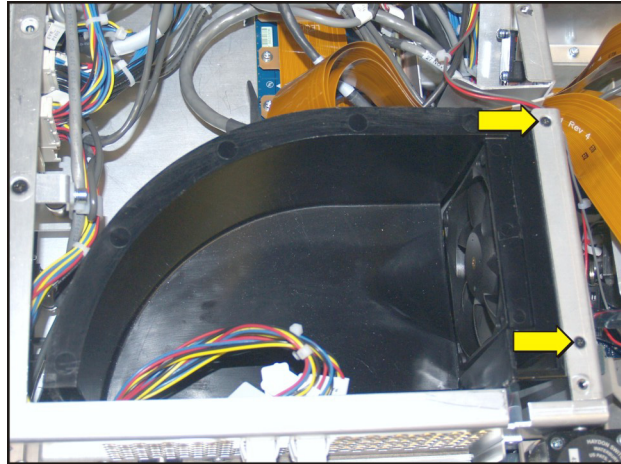

Figure 5-13 Intake Duct
3. Remove the two screws from the corners of the intact duct (**Figure 5-13**).